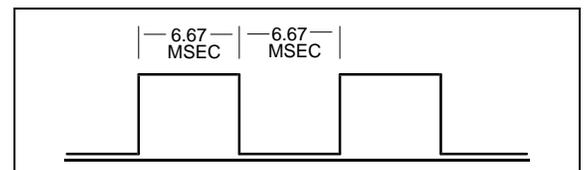
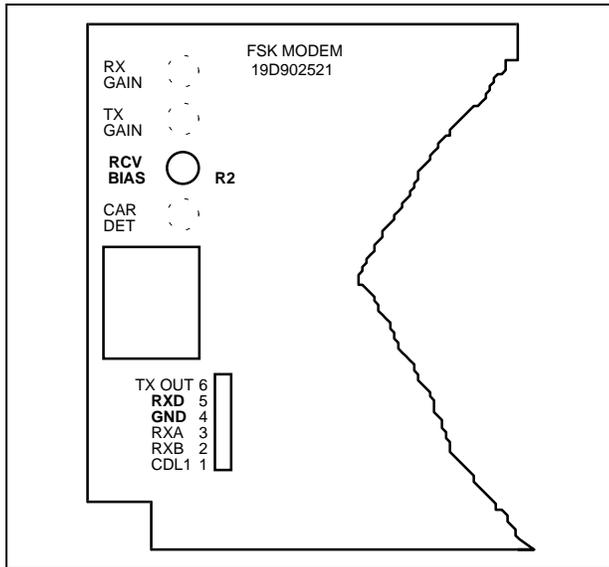

Figure 2. RXD 75 Hz Symmetry
Figure 3. FSK Modem Component Location
2. Adjust RCV BIAS control R2 on FSK Modem to achieve 50/50% symmetry of 75 Hz square wave. (See Figure 2) High & Low should equal 6.67 milliseconds. Note: An extender board may be necessary to gain access to R2. See Figure 3.